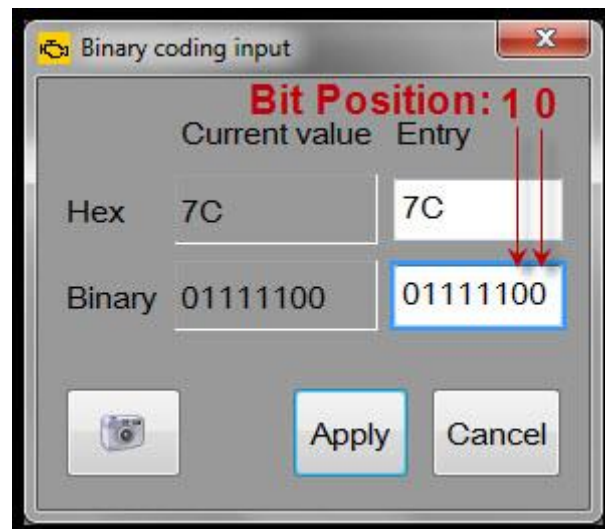

Figure 4. ODIS binary input for coding with indicated bit positions.
4. At the bottom of the screen, choose "Binary Coding". The Binary coding input window will appear (Figure 4).
5. **For MMI3G/MMI3G+:** Change bit 0 from "1" to "0". Bit position 0 is indicated in Figure 4.
For MIB High: Change bit 1 from "0" to "1". Bit position 1 is indicated in Figure 4.